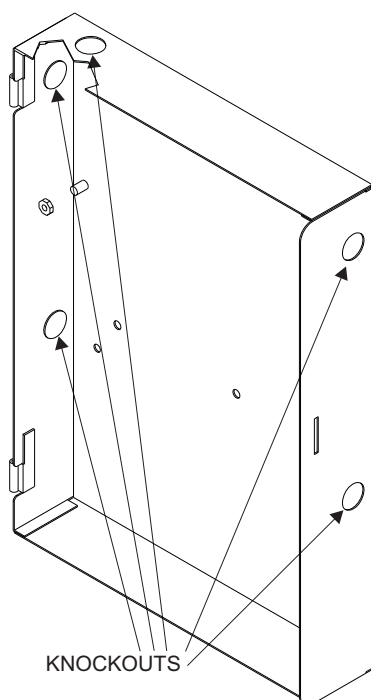

Figure 6
1. Remove the knockouts in the backbox for the entry of field wiring (Refer to Figure 6 for the location of knockouts).